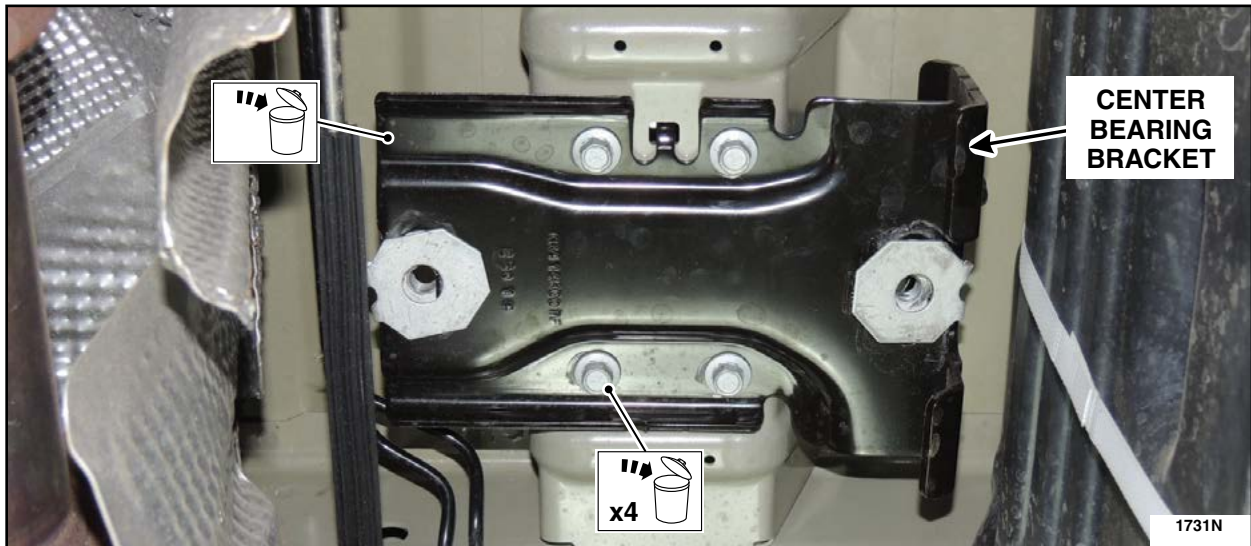

FIGURE 6
6. Remove and discard the four center bearing bracket retaining bolts and the center bearing bracket. See Figure 6.